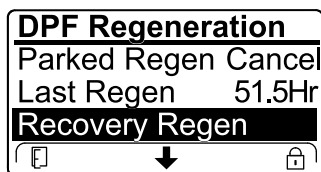

Figure 55
- If the engine computer has not requested a recovery regeneration and you scroll down to the RECOVERY REGEN option, the recovery regeneration locks and the lock icon (Figure 55) appears in the lower right corner of the InfoCenter.